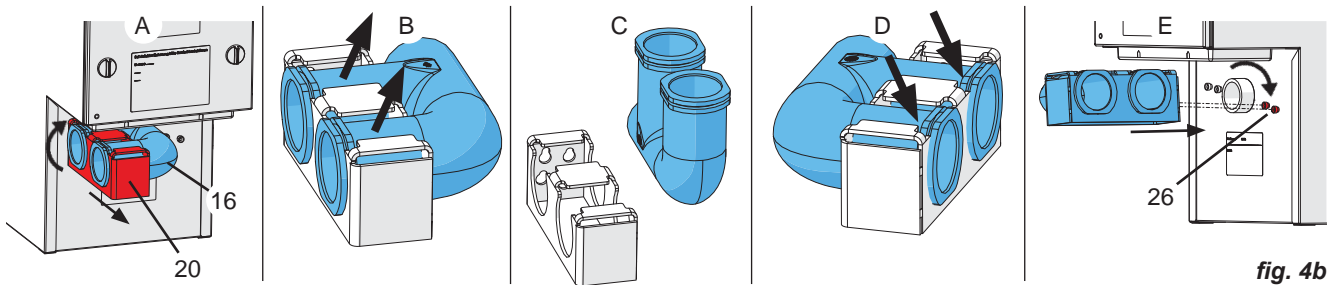

fig. 4b
- ⇒ Push the suction pipe (16) onto the suction support on the extractor and hang the holder (20) onto the holder screws (26, fig. 4b).